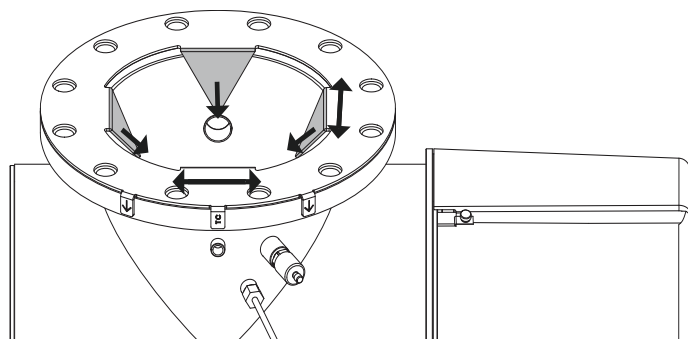

Figure 5 Flow Conditioner Installation
- b. Ensure the flow conditioner tongues are pointed in towards center of the UV chamber. Refer to Figure 5.